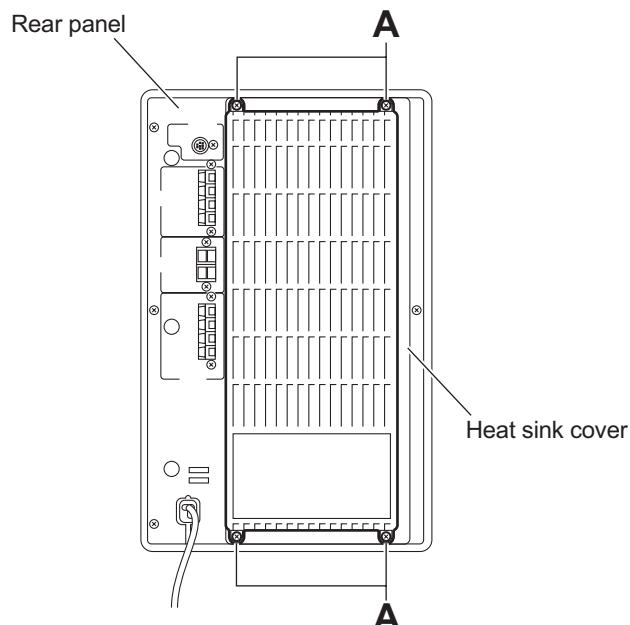

Fig.1
- (1) From the back side of the speaker main body, remove the four screws **A** attaching the heat sink cover and then remove the heat sink cover. (See Fig.1.)
#### 3.3.2 Removing the rear panel (See Figs.1 and 4)